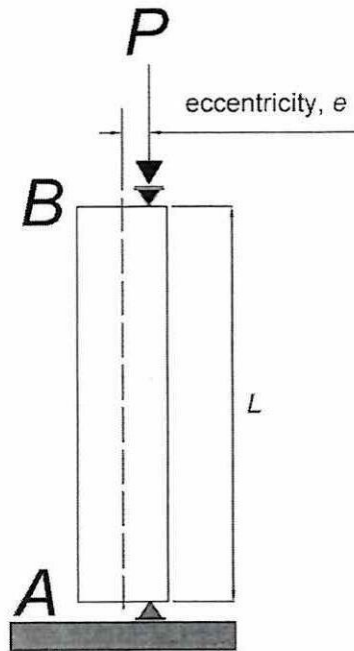

FIGURE Q4
- Q4** A steel tube with Modulus Young, $E = 200$ GPa and yield strength, $\sigma_y = 250$ MPa has a length of $L = 1,400$ mm supports an eccentrically applied load P as shown in **Figure Q4**. The tube has an outside diameter of 60 mm and a wall thickness of 5 mm. If the eccentricity, $e = 9$ mm, determine;
- (c) State five (5) ways to improve the torsional rigidity in a tube cross-section. Provide your sketch where appropriate. (10 marks)